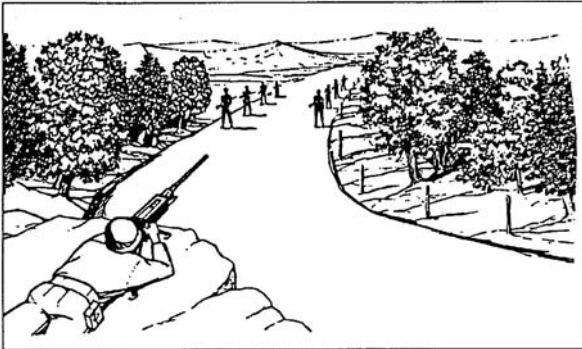

Figure 071-313-3454-12. Deep target
(5) Area target. Initially aim at the midpoint of the target area. Traverse and search to either flank, then traverse and search to the opposite flank (figure 071-313-3454-13).